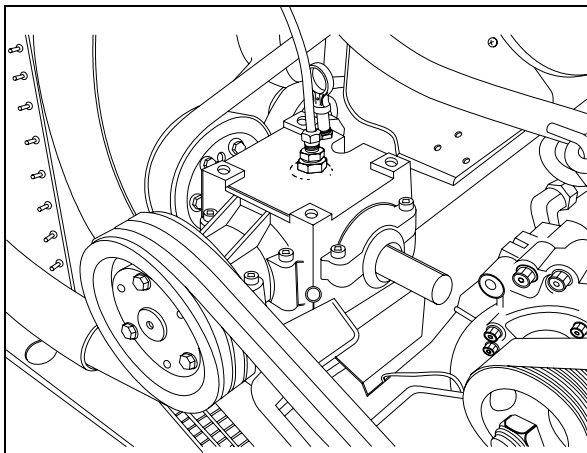

FIGURE 12: FAN GEARBOX 05062T
5. Remove the dipstick located on top of gearbox and wipe with a clean rag (Fig. 12).